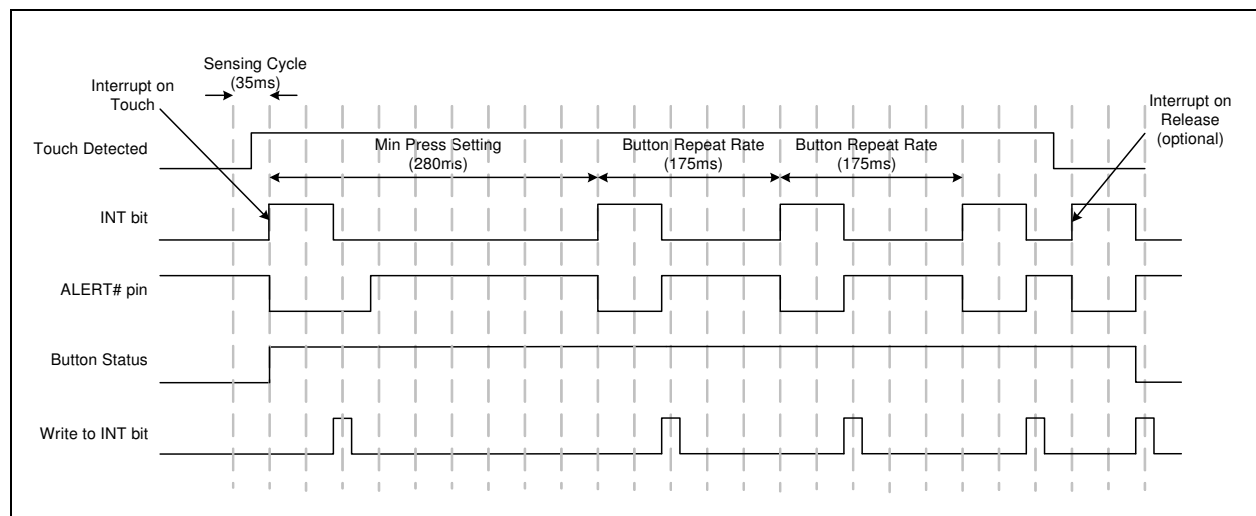
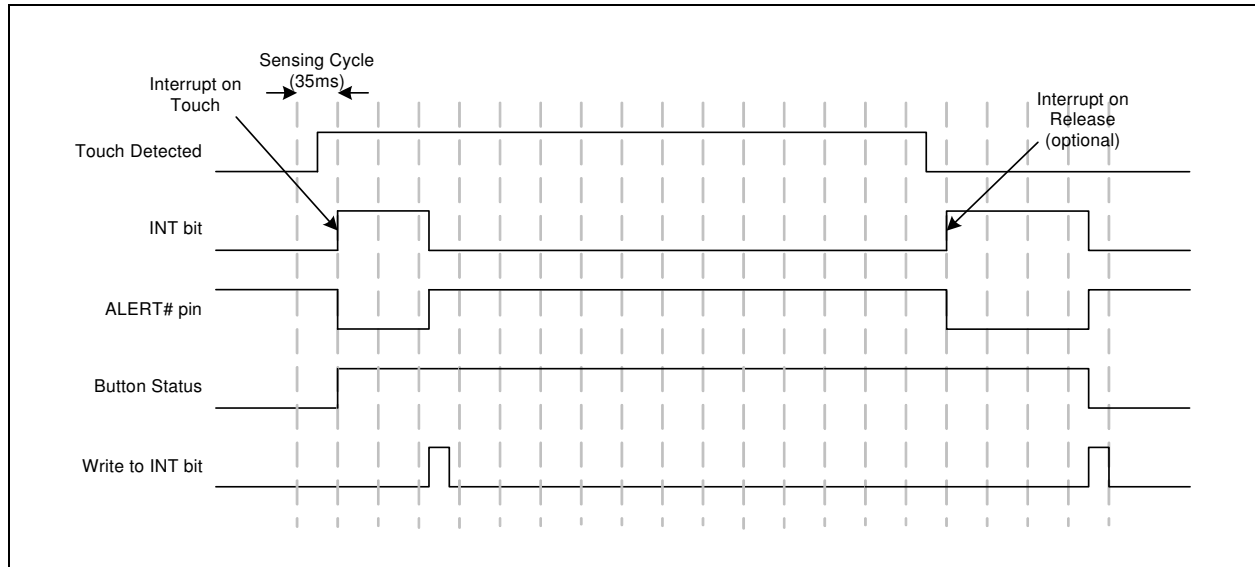

Figure 4.4 Sensor Interrupt Behavior - Repeat Rate Enabled
Figure 4.5 Sensor Interrupt Behavior - No Repeat Rate Enabled
1. An interrupt is generated when a touch is detected and, as a user selectable option, when a release is detected (by default - see INT\_REL\_n in Section 5.6.2, "Configuration 2 - 44h"). See Figure 4.5.
2. If the repeat rate is enabled then, so long as the touch is held, another interrupt will be generated based on the programmed repeat rate (see Figure 4.4).
**APPLICATION NOTE:** Figure 4.4 and Figure 4.5 show default operation which is to generate an interrupt upon sensor pad release.